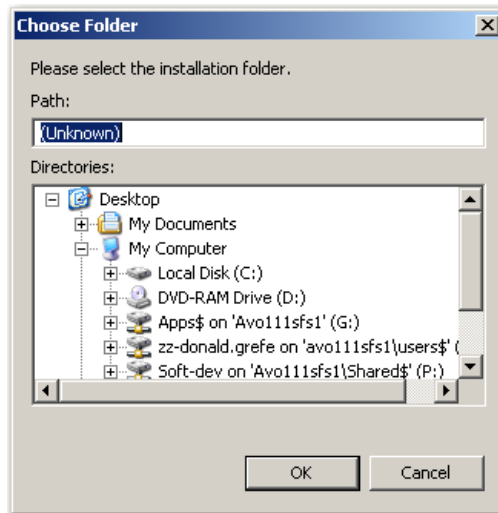

Figure 27 Choose Folder
- Click **Change** and the *Choose Folder* dialog appears (Figure 27).